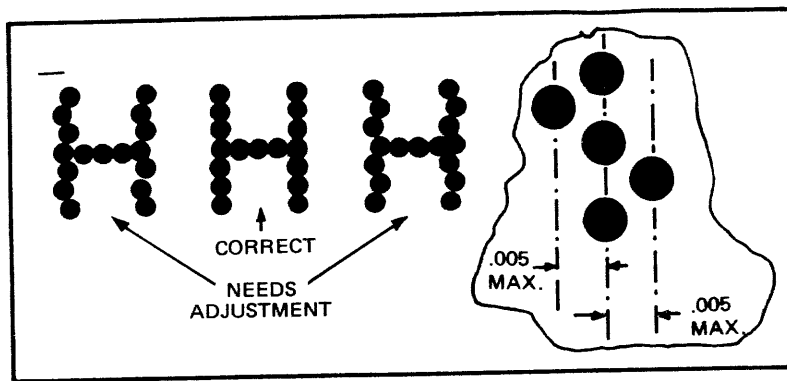

Figure 62 Effect of Magnetic Pickup Phasing Adjustment
c. Press ON LINE pushbutton and observe relative horizontal position of dots in alternate rows. Rotate magnetic pickup arm until dots in alternate rows are aligned within tolerances (figure 62). Note that for a letter such as H, dots can be aligned perfectly in only one of the two vertical strokes. Adjust phasing to optimize alignment in both strokes.